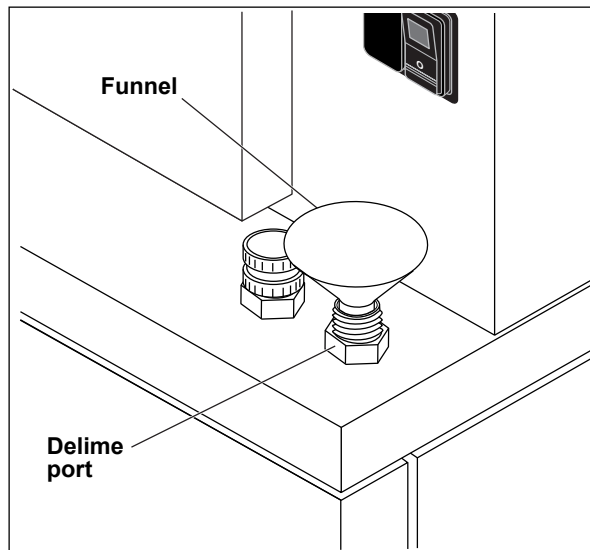

Figure 3
4. Remove delime port cap located on the front ledge beneath the lower compartment and insert a funnel into the delime port (Fig. 3).